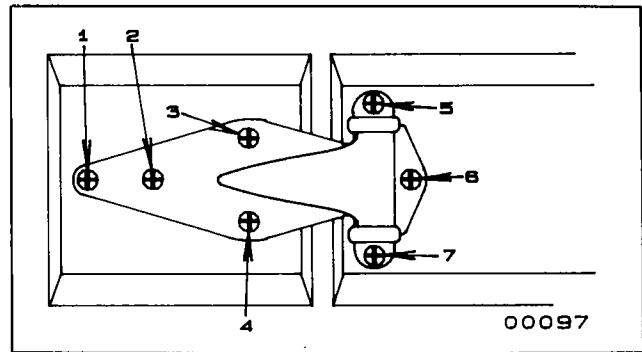

Figure 10. Hinge Screw and Pin Identification
1. Remove and discard screws #1 and #2 from both door hinges (figure 10).
6. Remove and discard screw #6 from both body hinges (figure 10).